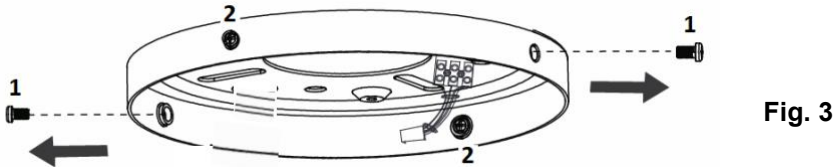

Fig. 3
- Loosen two canopy screws (1) and remove from the mounting bracket. (Fig.3)